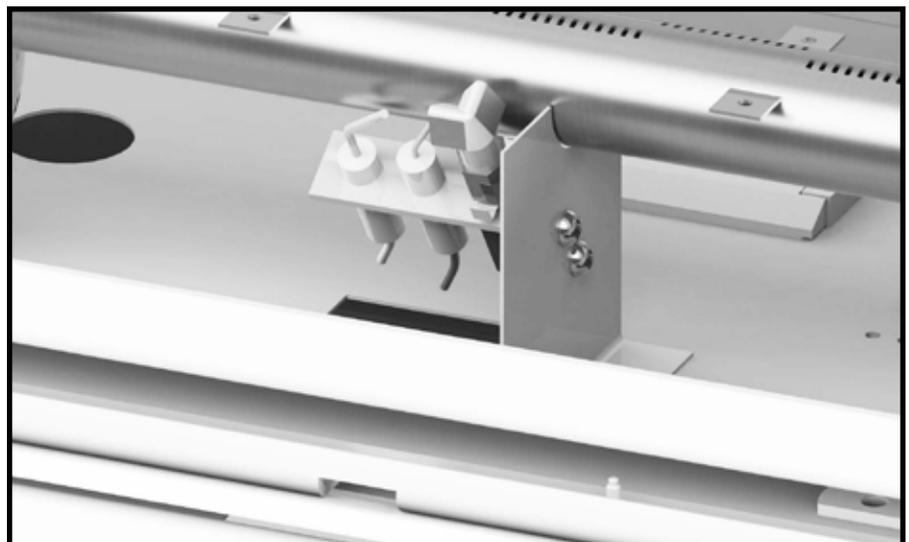

Figure 74: Attaching pilot to burner leg.
6. Attach the pilot to the burner support leg as shown in Figure 74.